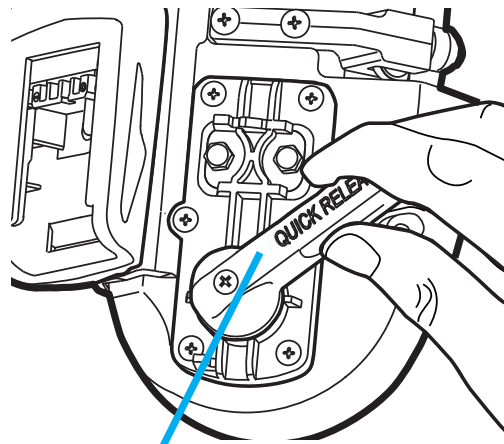

FIG 04A
4. TURN the Lever (Tensioning of the Blade) 180°clockwise (figure 04A);